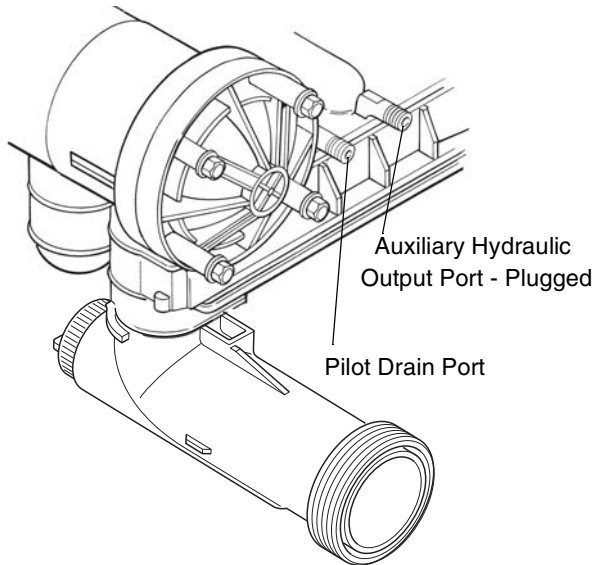

Figure 21
**Pilot Drain** - During regeneration, a small amount of water (200 ml or 1 cup) is discharged from the 1/4-inch (6.3-mm) tube fitting on the back of the valve marked DRAIN (Figure 21). To prevent this water from being discharged to the floor, plumb this connection to a non-pressurized drain or to the brine tank. **Do not plug or apply back pressure to the pilot drain at any time.**